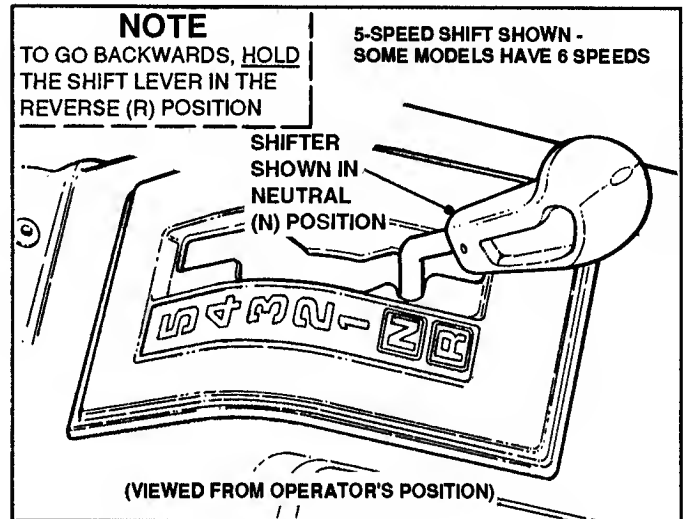

FIGURE 7
1. Push the CLUTCH/BRAKE PEDAL all way down and shift SPEED SELECTOR to 1 to go forward or to R for reverse. See Figure 7.